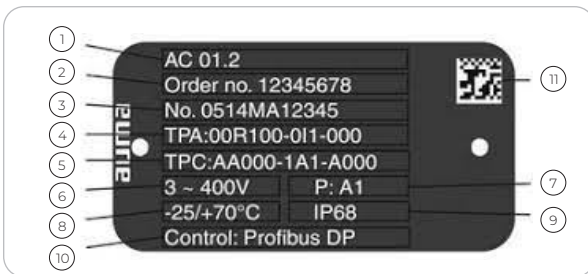

Fig. 9.1
The device can be equipped with different types of electrical actuators, most commonly from the manufacturer AUMA. The connection diagram for the actuator differs between different specifications of the actuator. Therefore, a connection diagram and complete manual is supplied physically with each actuator. If these documents are lost, complete documentation can be downloaded from the following website: <https://www.auma.com/en/service-support/wiring-diagrams>. The order reference for downloading can be found on the nameplate on the side of the actuator. See pos. 2 on Fig. 9.1